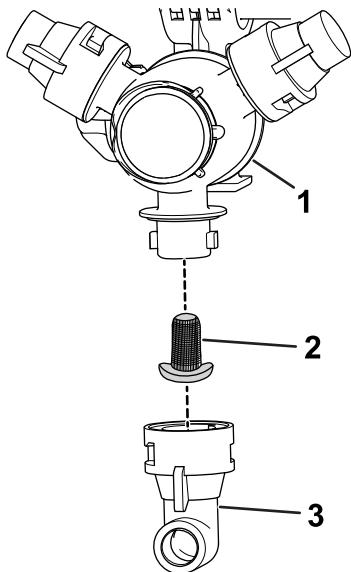

Figure 54
2. Remove the nozzle from the spray turret (Figure 54).
3. Remove the nozzle filter (Figure 54).
5. Install the nozzle filter (Figure 54).
6. Install the nozzle onto the spray turret (Figure 54).